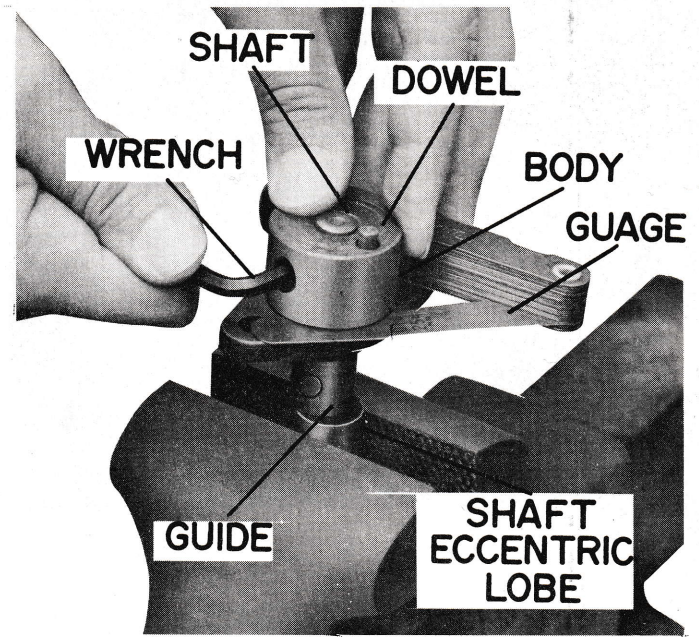

fig 2
15. Press the body down to compress the spring and at the same time tighten the set screw against the shaft. Make the screw tight, fig 2.